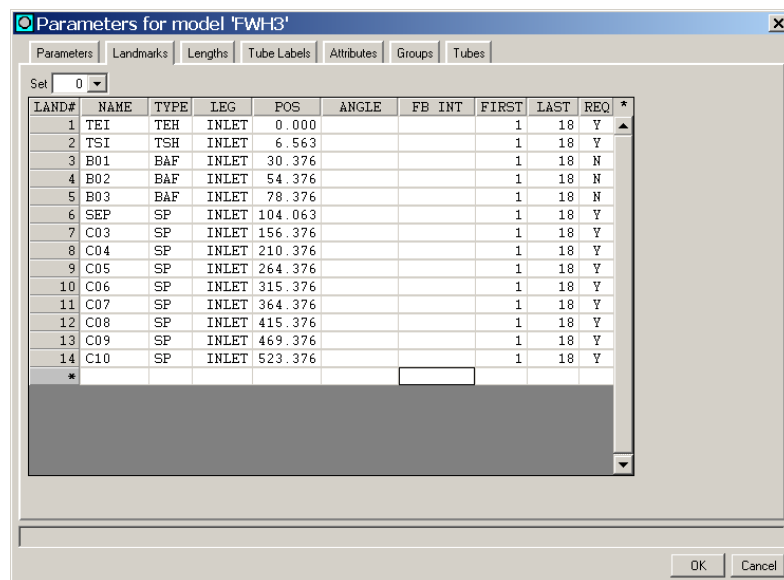

Figure 65. Parameters dialog - Landmarks Tab Showing Landmark Set 0
- STEP 13:** Continue entering the remaining landmarks for *Landmark Set 0* while referring to Table 1. When you have completed this step, continue to the next series of steps to enter the landmarks for *Landmark Set 1* (upper half). When you have finished, the *Landmarks* tab of the *Parameters* dialog should look like the one shown in Figure 65.